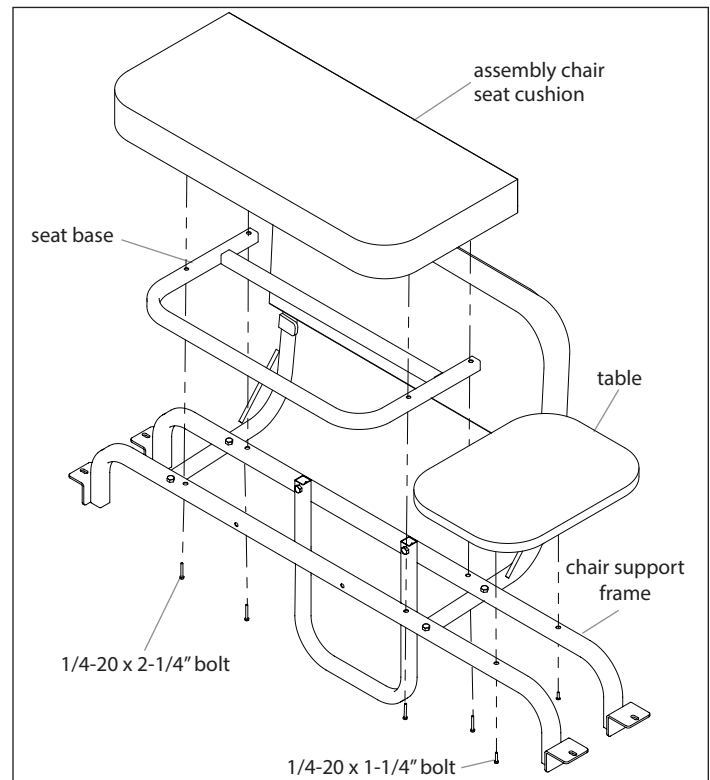

FIGURE 5
8. Attach assembly table (11331) to both chair support frames (11300) using (2) 1/4-20 x 1-1/4" bolts and (2) 1/4" washers. Locate the mounting holes for the table on the support frames. From under the chair support insert bolts up through the tubing to mount the table. The holes in the table have threads that will allow the table to tighten down to the frame. **SEE FIGURE 5**
9. Attach seat base (11303) and the assembly chair seat cushion (11330) to both chair support frame (11300) using (4) 1/4-20 x 2-1/4" bolts and (4) 1/4" washers. **SEE FIGURE 5**